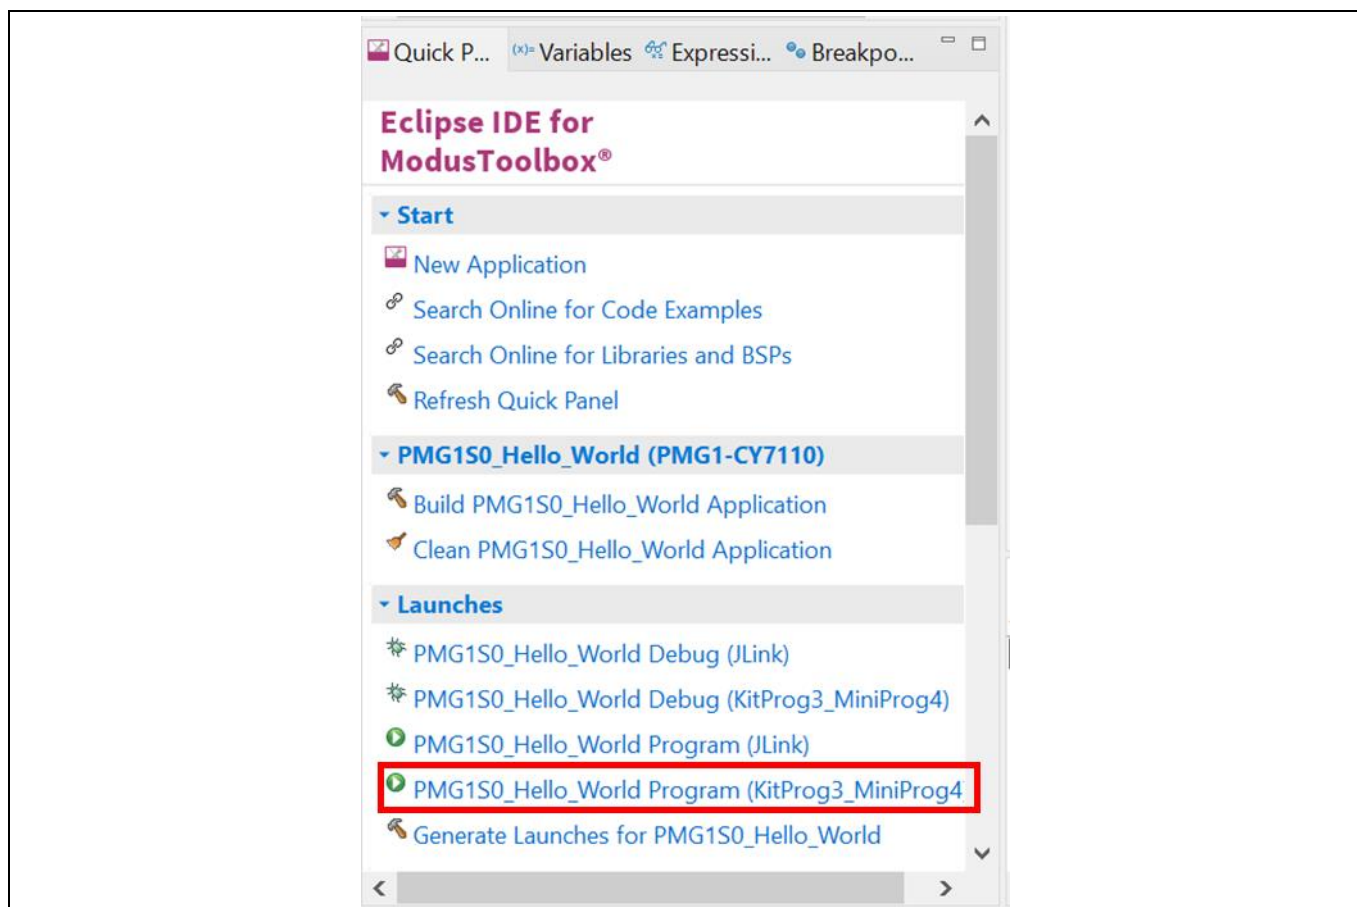

Figure 24 Quick panel and debug options
5. Go to the **Quick Panel** tab. Click **<Application name> Program (KitProg3_MiniProg4)** from the **Launches** section to download the firmware into the kit as shown in Figure 24.